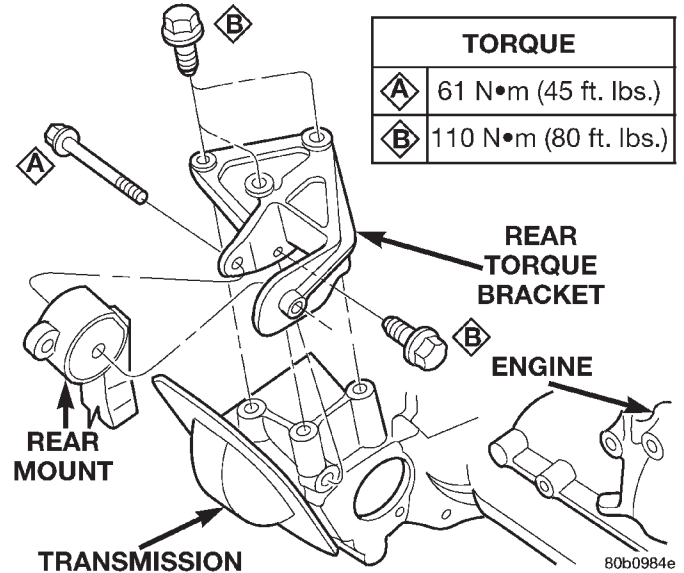

Fig. 23 Engine Mounting—Rear 2.5L
- (1) Raise vehicle on hoist.
- (2) Remove through bolt (A) from rear engine mount and bracket (Fig. 23).
- (4) Install through bolt (A) and tighten 61 N·m (45 ft. lbs.) (Fig. 23).
- (5) Lower vehicle.